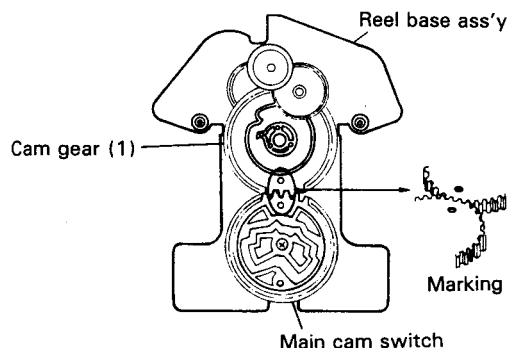

Fig. 8
1. Remove two screws (7) and five screws (8) securing the reel base.
- \* Reassembling the cam gear (Fig. 8)